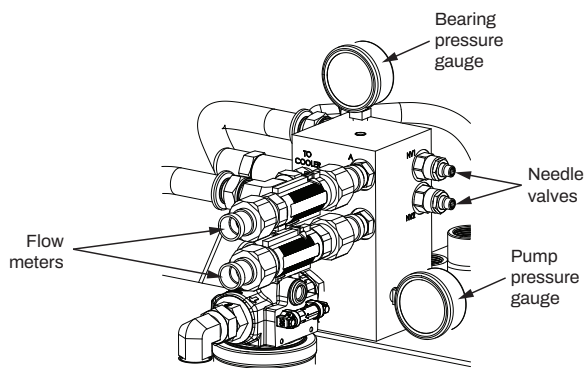

Figure 2 - Controls
7. Adjust the oil flow rates to desired flow by adjusting the needle valves while observing the flow meters (See Figure 2). To adjust the needle valves, first loosen the locknut, then use an Allen wrench to open and close the valves. Make sure that the pump pressure does not exceed 200 psi by watching the system pressure gauge.